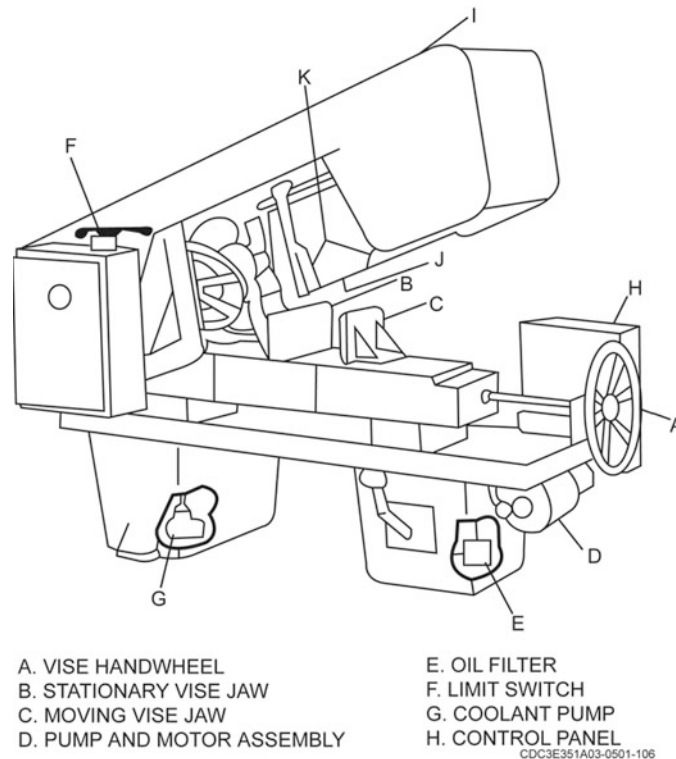

Figure 4-72. Power cutoff saw.
The cutoff band saw in figure 4-72 is a shop-installed machine we use to cut angle iron, bar stock, and heavy plate. There are various models with different operating procedures.
2. Secure the material between the vise jaws to prevent the blade from binding or breaking during cutting (fig. 4-72, B, C). To apply pressure to the vise jaws, you must turn the vise handwheel.
You can make angle cuts by changing the position of the vise jaws. This kind of saw is operated by hydraulic pressure supplied by the motor and pump assembly (fig. 4-72, D). The hydraulic pressure powers the hydraulic cylinder to raise and lower the cutting blade and apply feed pressure. When the cut is complete, the limit switch turns the machine off automatically. Remove the cut material from the saw and clean the saw and area. Be sure to follow the manufacturer's recommendation for saw blade coolant fluid. To save time when making multiple cuts, use the adjustable stop.